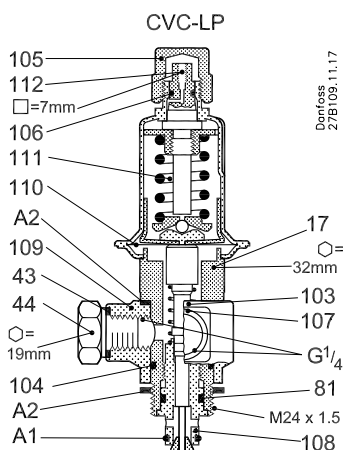
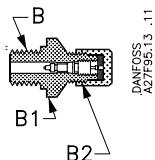
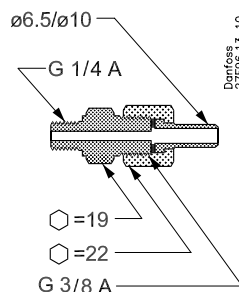

Fig. 1. CVC
Fig. 2
Fig. 3
<p>Fig. 1 pos. 1 Knob pos. 37 Spring retainer pos. 27 Spindle pos. 9 Pressure stem pos. 12 Large sensor</p> <p>Fig. 2 pos. 17 Sensor pocket</p> <p>Fig.3 pos. 2 Setting unit pos. 18 Mounting bracket pos. 30 Valve body pos. 9 Pressure stem pos. 10 Bellows element</p> <p>Fig. 4 Large sensor (location)</p> <p>Fig. 5 pos. 38 Small sensor</p> <p>Fig. 6 Force opening of valve</p> <p>Fig. 7 AVTA on condenser (by-pass)</p> <p>Fig. 8 Small sensor (location)</p>